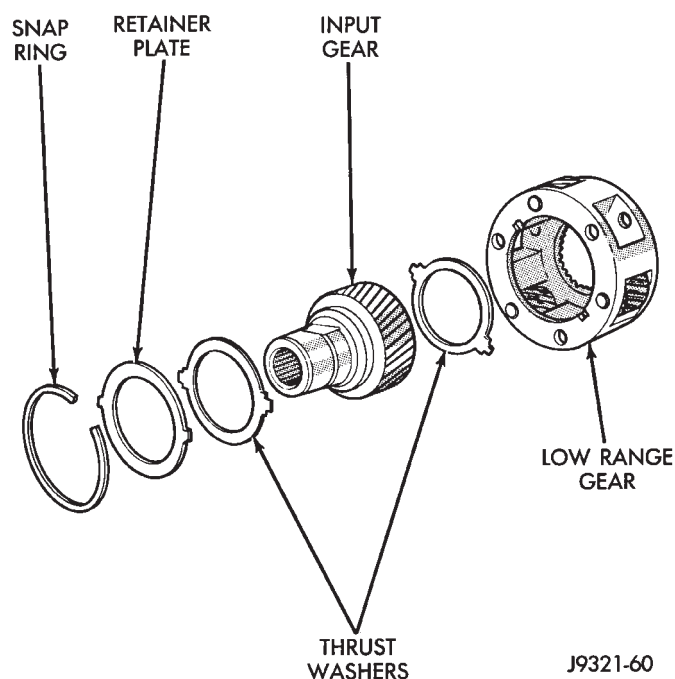

Fig. 63 Input/Low Range Gear Components
(1) Lubricate gears and thrust washers (Fig. 63) with recommended transmission fluid.